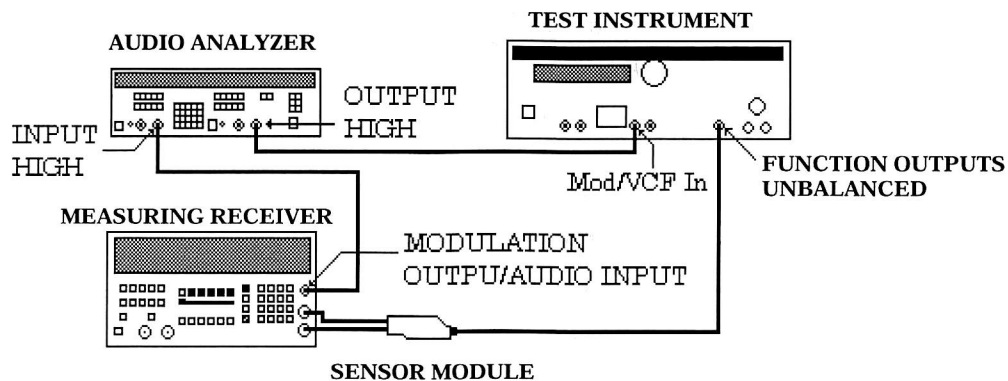

Figure 1. FM distortion equipment hookup.
(2) Connect equipment as shown in figure 1.